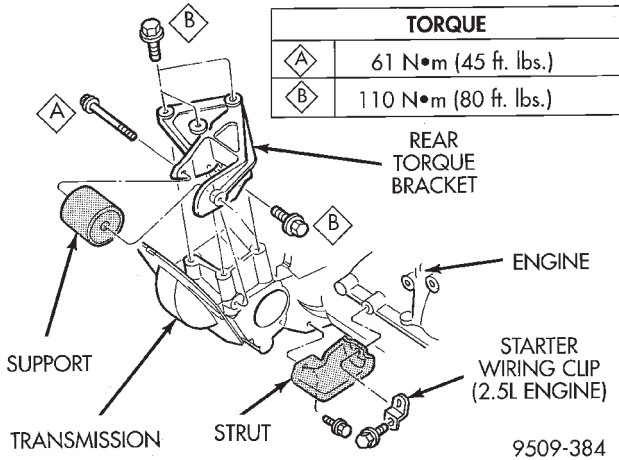

Fig. 26 Engine Mounting—Rear 2.4 and 2.5L
- (1) Install thru bolt at front mount. Do not tighten at this time.
- (2) Install lower radiator support.
- (3) Install attaching bolts from support module to lower radiator support.
- (4) Install upper bolt at rear support strut bracket.
- (5) Install thru bolt at rear mount see (Fig. 26) tighten to 61 N·m (45 ft. lbs.).